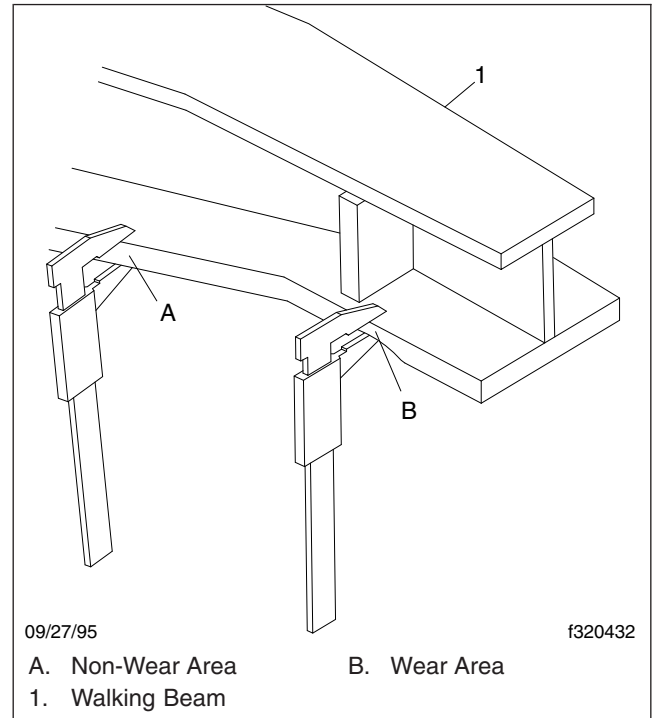

Fig. 8, Walking Beam End Wear Thickness
- Manipulate the walking beam so that a micrometer, vernier, or dial caliper can be used to determine the wear area thickness on the bottom face. See **Fig. 8**. Measurements should be taken a minimum of 1/2 inch from the beam flange edges to eliminate any edge wear that may have occurred. Subtract the wear area thickness (see **Fig. 8**, Ref. B) from the thickness at the non-wear area (see **Fig. 8**, Ref. A) to determine the amount of wear.